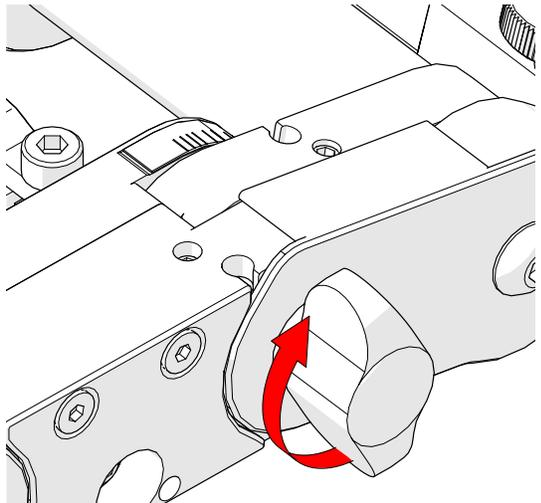

Fig. 16 - Tighten black wing knob
4. Tighten the black wing knobs (Fig. 16).